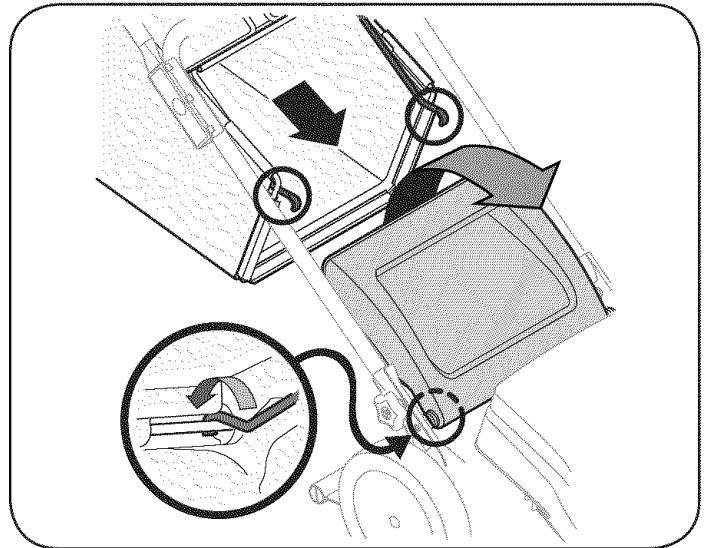

Figure 4
3. Place grass catcher on the pivot rod. Let go of discharge door so that it rests on the grass catcher. See Figure 4.